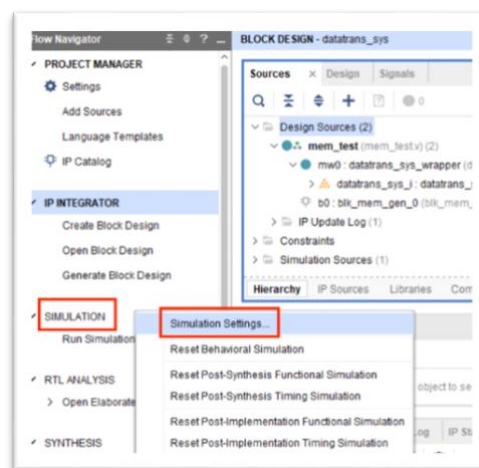

Figure 16 Opening the simulation settings
- c) Once understanding the design, we can do the behavioral simulation. Right-click on “SIMULATION” and select “Simulation Settings” as shown in Figure 16.